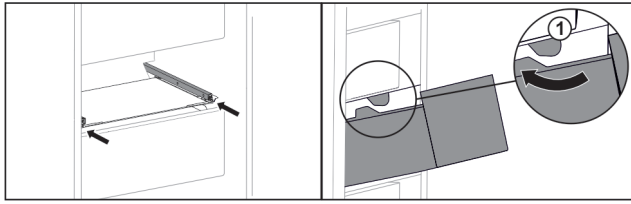

Fig. 55
- ▶ Guide drawer around the stoppers *Fig. 55 (1)*.